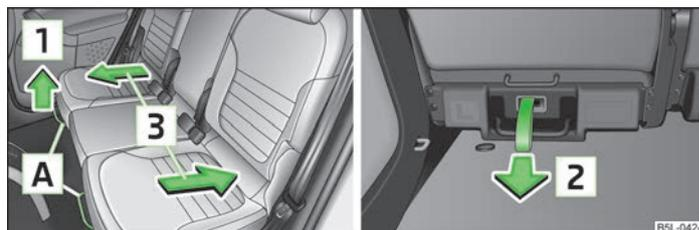

Fig. 49 Releasing at the front/rear
- Pull the lever  » Fig. 49 up in the direction of arrow  or on the release loop in direction of arrow  and move the seat into the desired position .